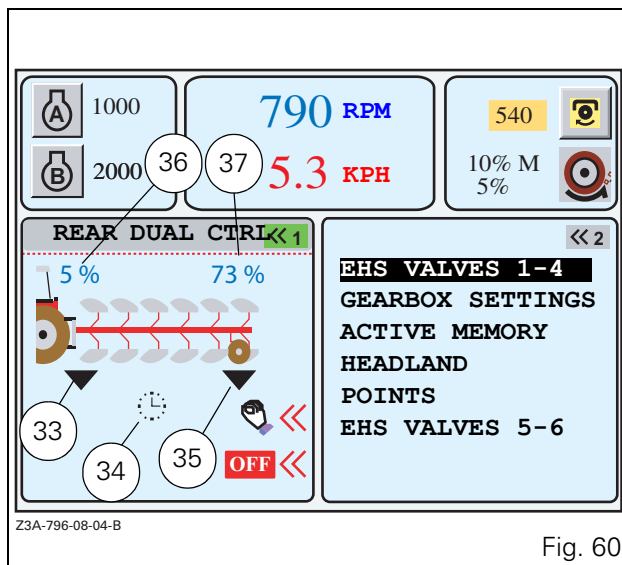

Fig. 60
- Validate by pressing the encoder or the key «₁. The window (Fig. 60) is displayed.